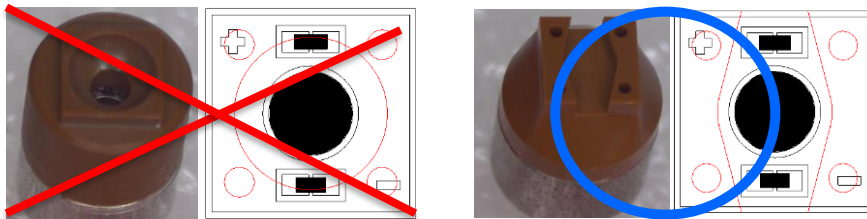

Figure 3. incorrect Collet(left) and correct collet( right) of UV Package
- UVC PKG consist of Lens and Zener (or Chip), which is placed outside of Lens. When using collet in the “Pick & Place process” as shown in fig.3(left), Chip or Zener can be damaged by Collet. ( for example : LENS could be pressed, Chip could be broken or fell out ) .
- It is recommended to use collet as shown in Fig.3(right). The Collet can carry out “Pick and Place Process” properly by avoiding damages of chips or Lens.